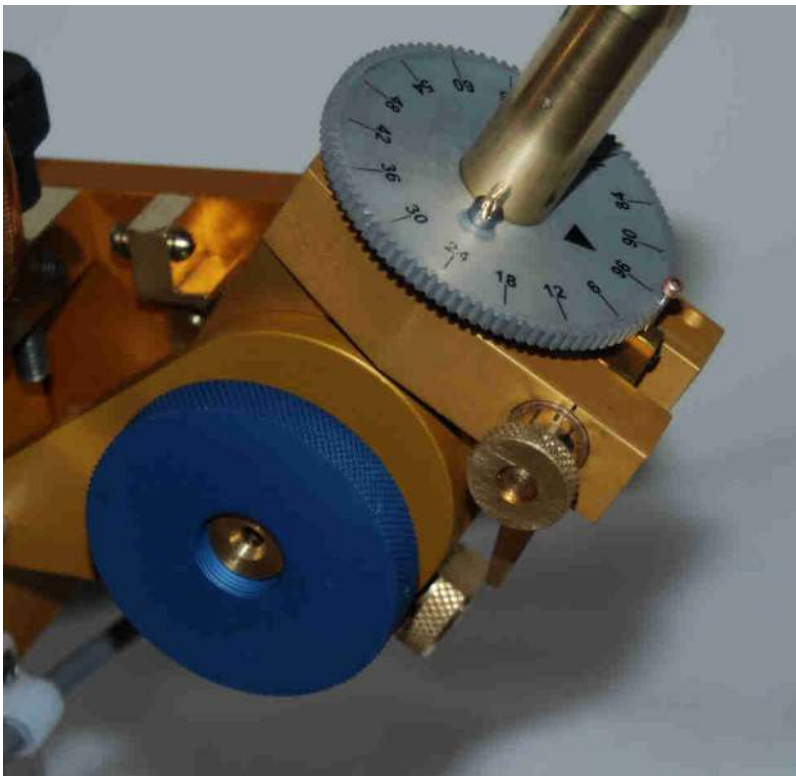

Fig 15
(31) INDEX MICRO ADJUSTMENT (CHEATER) (Fig.15)